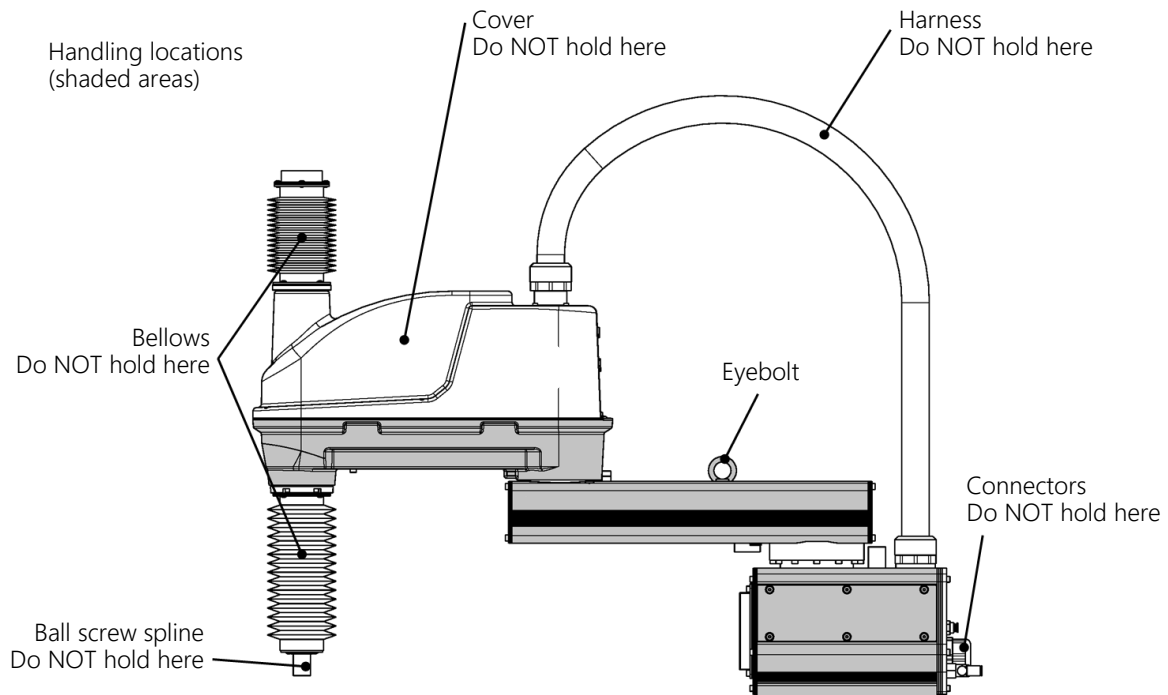

Figure 2.4 Handling Prohibited Locations on Robot
- When lifting the robot by hand, place your hands on the shaded locations shown in Figure 2.4. Grasping the ball screw spline shaft could apply excessive force, resulting in damage.